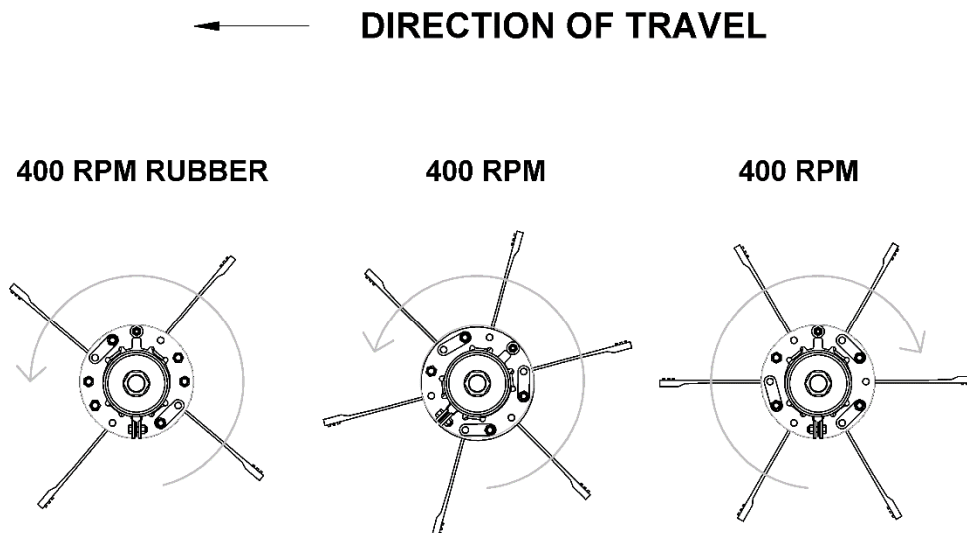

Figure 7: Rubber Front Drum
4.1.2 Tire Spacing and Inflation: Tires should be inflated to the manufacturer's specification. See section Table 2: Tire Size and Pressure on page 7 for more information. Figure 7 shows the appropriate tire spacing.